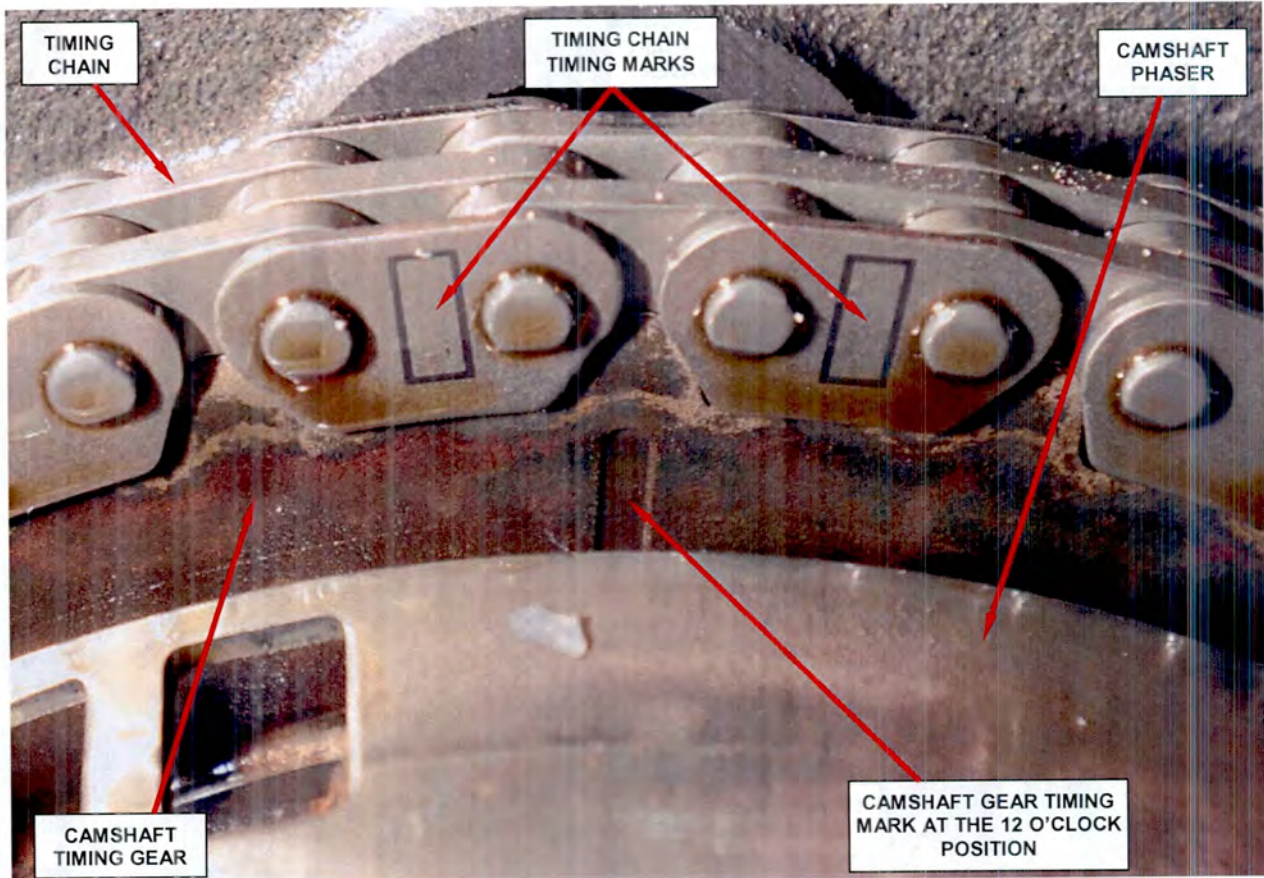

**Figure 6 – Engine Timing Cover**
34. Carefully remove the engine timing cover assembly from the engine (Figure 6).